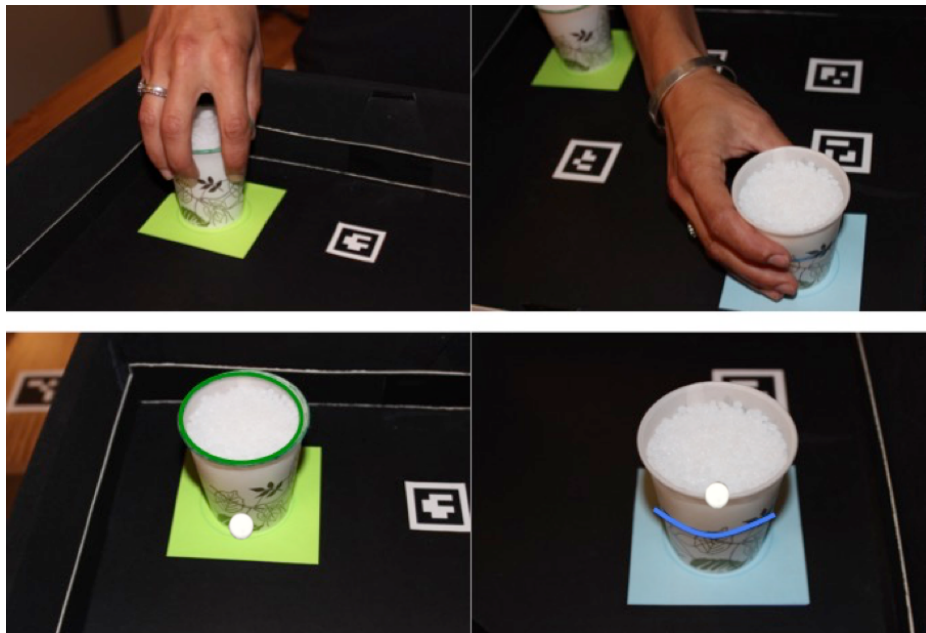

Figure 3. Correct Grasp Patterns and Marker Placement
- **Motion Capture reflective markers:** Placed on the back two corners of the box, and the back top of the middle divider. Each cup should also have a marker as indicated (Figure 3). The table should have 5 markers on the base, as per the pasta box task (refer to Pasta Box Protocol).
A NEUTRAL orange sticker or marker should be placed at the back edge of the divider for the participant to fixate on at the beginning and the end of the trial. Reflective markers should be placed as indicated in Task Design and shown in Figure 2. In addition, both cups require a marker affixed as per Figure 3.
Cups are prefilled with the bead pellets, but not overflowing (Figure 3).
5. Note that the NEAR cup requires a “top” grasp (as prompted by the green rim), and the FAR cup will require a “side” grasp (as prompted by the blue band around the cup), as per Figure 3.